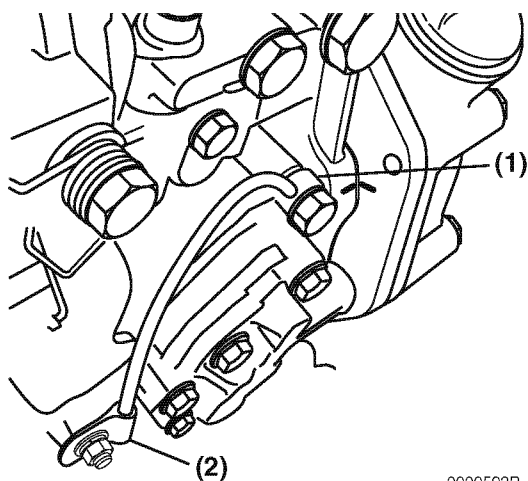

Figure 7-12
- Disconnect the lube oil line (**Figure 7-12, (1)**) and the clamp (**Figure 7-12, (2)**) from the pump.